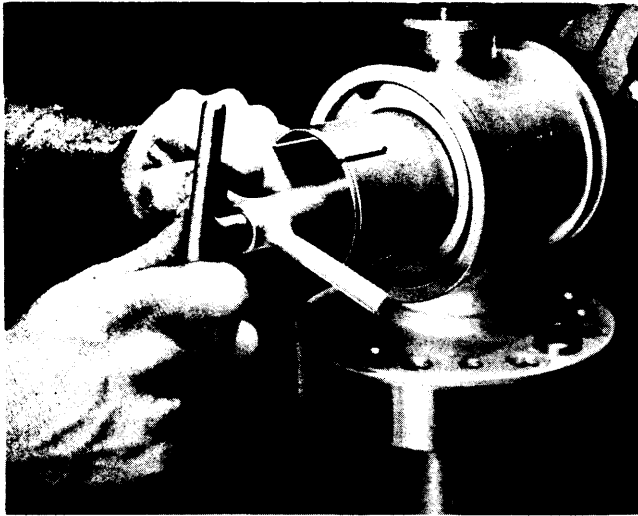

Figure 21. Preloading Flanges
b. PRELOAD PARTS. (See figure 21.)
(1) Insert the preload assembly into the bore in the center web of the hub.